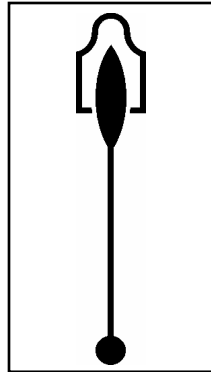

Figure 071-010-0006-9. Engagement of point target
- b.** Area target. Initially, aim at the midpoint of the target area. Traverse and search to either flank, then back to the opposite flank (figure 071-010-0006-10).